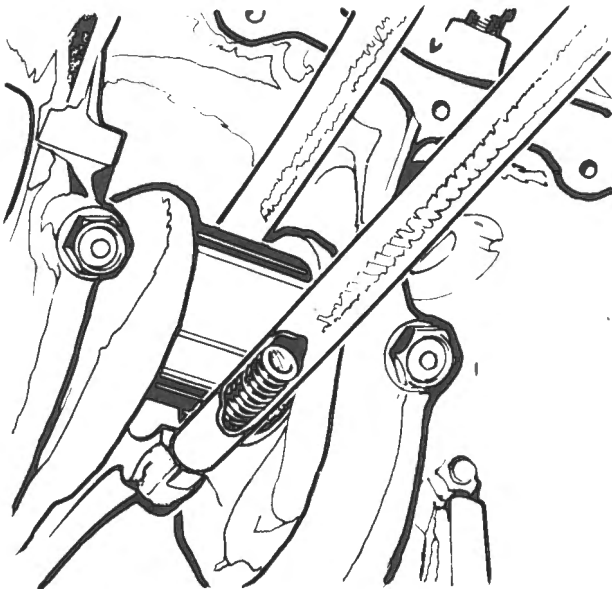

Fig. D-84
- 3 Fit suitable lengths of hose over the connecting rod bolts as shown in Fig. D-84. The hoses will keep the bearing shell in place and protect the crankshaft journal when fitting the assembly to the block.